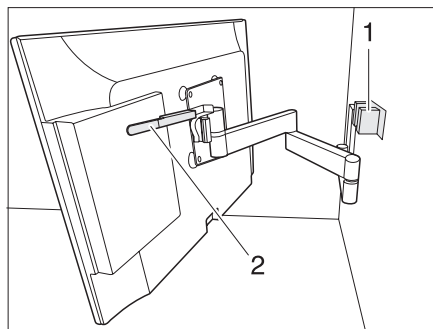

Fig. 6 Holder with jointed arm
- ▶ Tilt the flat screen towards the locking mechanism (Fig. 6,1).
- ▶ Pull down the lever (Fig. 6,2).
- ▶ Release the lever (Fig. 6,2). The lever clicks into place.